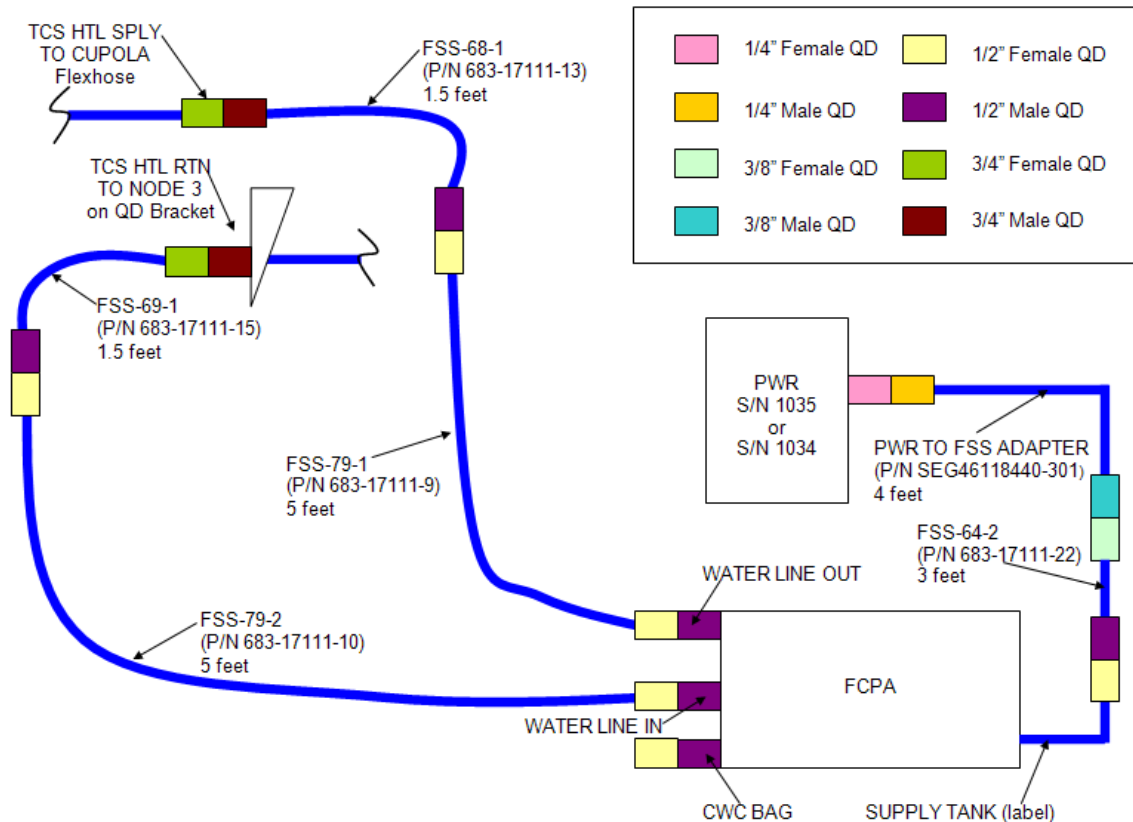

Figure 9.- FSS and Jumper Configuration for Cupola Fill.
2. PWR S/N 1035 and associated jumpers shown in Figure 9 will not be connected until step 13.
Refer to Figure 9.